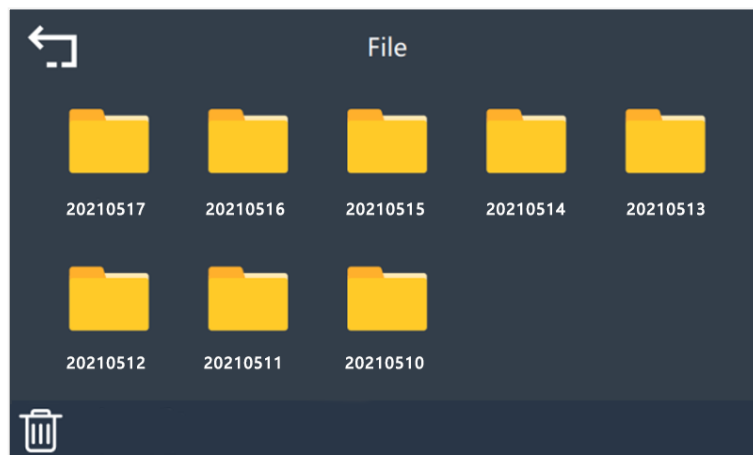

Figure 4.17 Folder Display
Step 2: Touch or press the physical button to switch to, and press the physical "OK" key to enter the interface for viewing files. Files are stored in folders named after the date of shooting (as shown in Figure 4.17). Click "Folder" to view the files shot/recorded on the corresponding date.